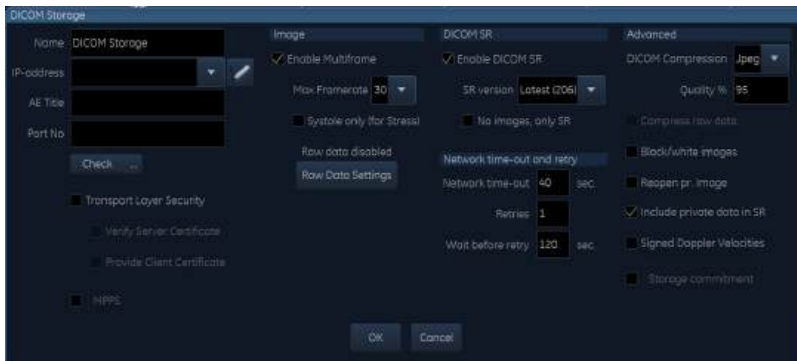

Figure 3-127. DICOM Storage Properties
6. When configuring the DICOM storage device, the following image settings are recommended to enter in the *Properties* window (Figure 3-127):